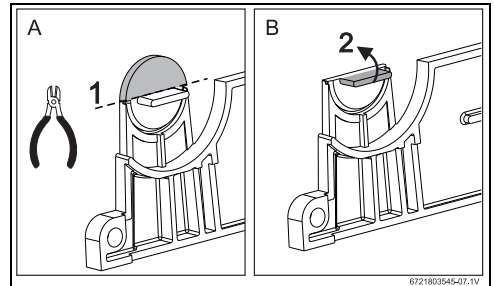
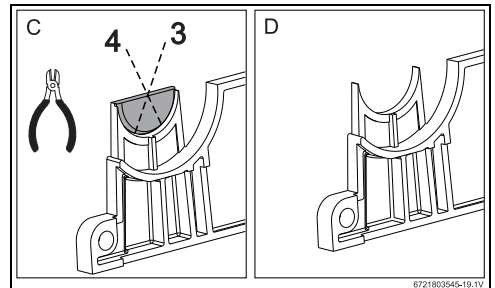
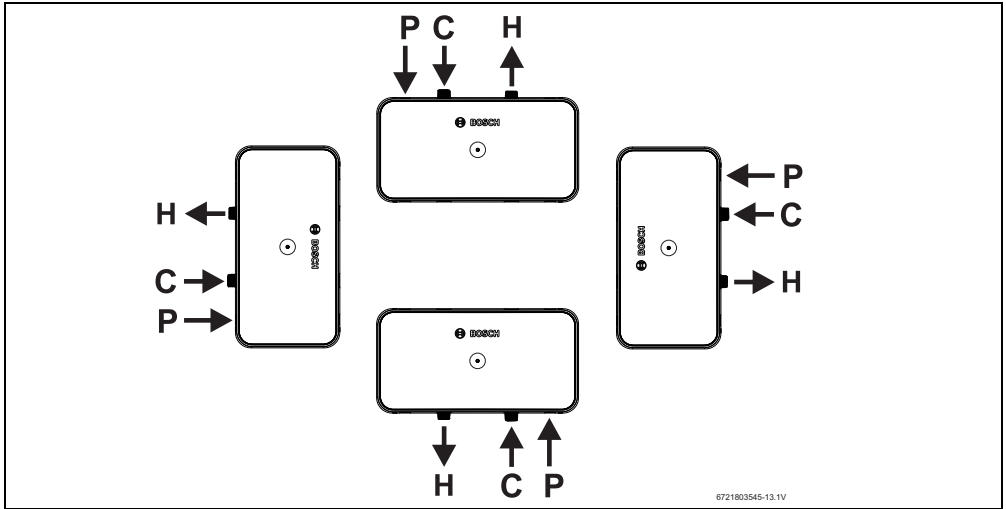

Fig. 8
Fig. 9
Fig. 13 Unit position
- ▶ The water heater must be mounted on a vertical wall or surface and positioned with water and power connections shown in Fig. 13.
- ▶ Break off relevant plastic piece of lower trim to allow cable to enter the product (Fig. 8 and fig. 9). For acceptable installation positions and cable entry points → fig. 13.